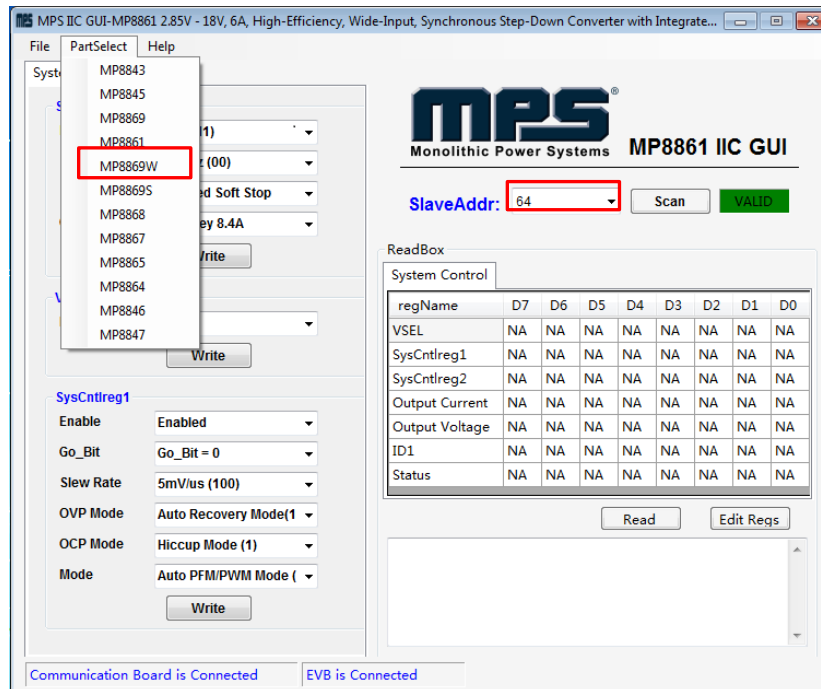
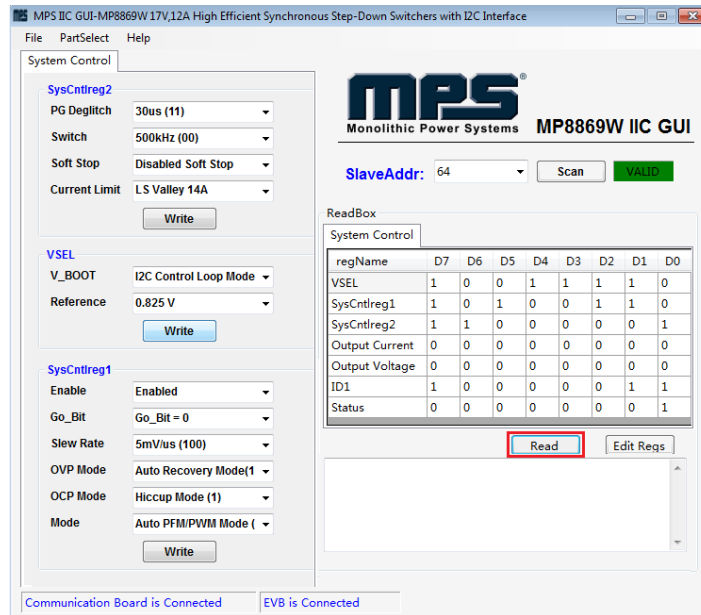

Figure 7: Appearance of Address Shows Successful Connection
Figure 9: Values from I2C Shown in Table
- If the connection is successful, the address will be listed in the “Slave Address” (see Figure 7).
- Click the **PartSelect** button to select the MP8869W (see Figure 7) (The default GUI window is for the MP8861). The Register Control menu will appear on the left side. I2C register values will be read and displayed on the right side after clicking the **Read** button (see Figure 9).